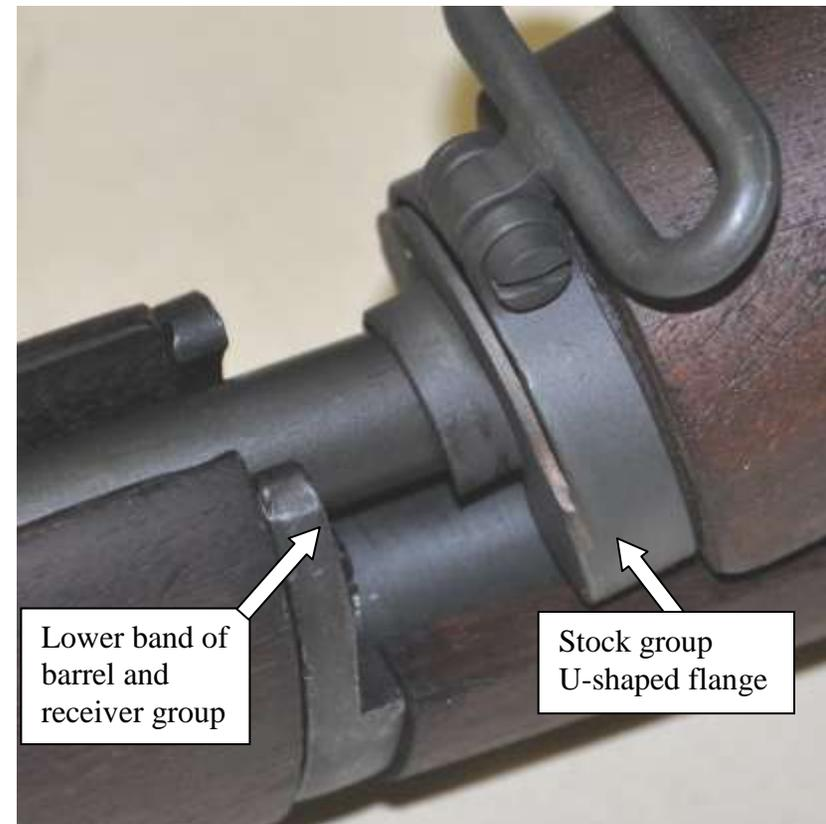

Figure 50 -Assembly of stock group
- 1) Pick up the stock group and engage the U-shaped flange on the front of the stock into the lower band, then lower the stock group onto the barrel and receiver group (fig 50).